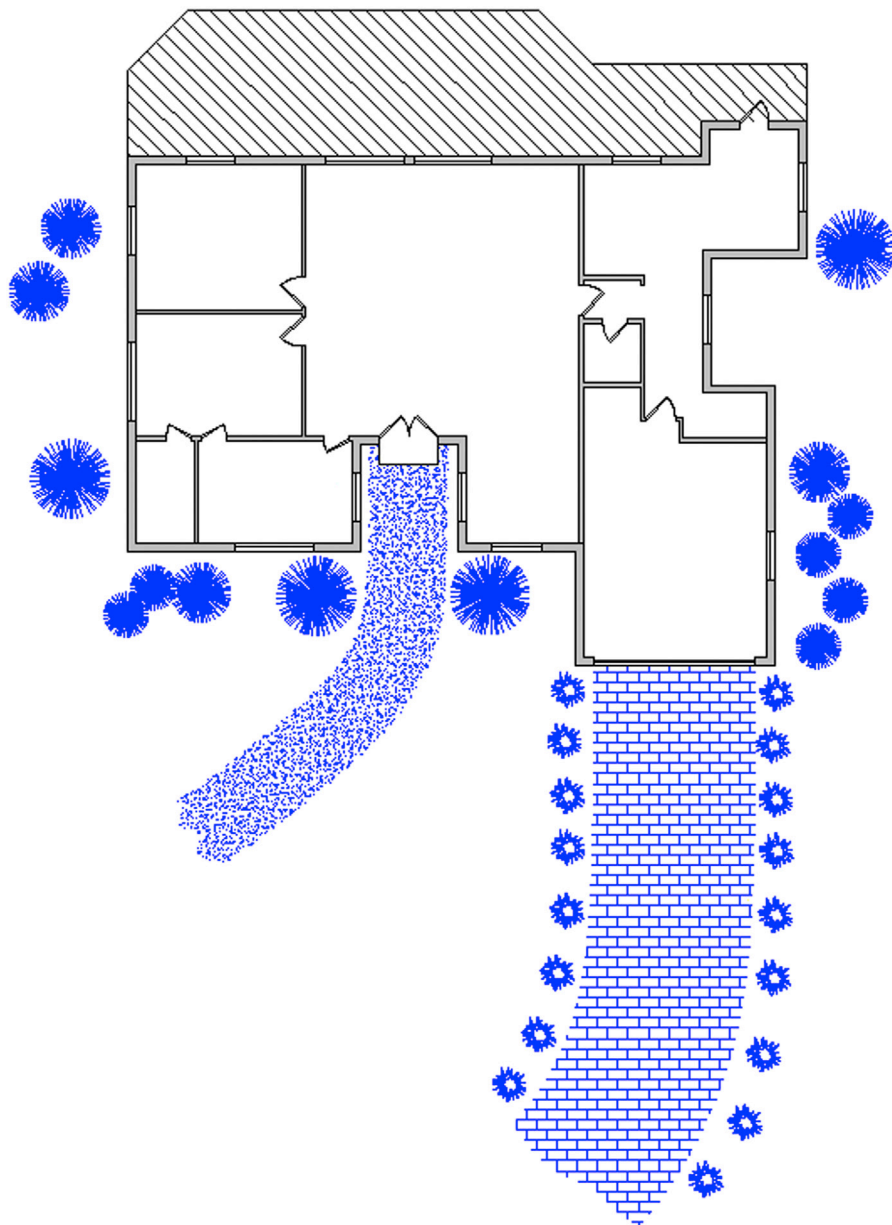

FIGURE 17.16 Landscaping plan.
Step 2. Create the landscaping plan as seen in Fig. 17.16. You need to create plines for the borders of the driveway and the walkways. Then, after adding the hatch patterns (Sand and Brick), erase some or all of the plines. For the trees and shrubs, you need to call upon the xline and spline.